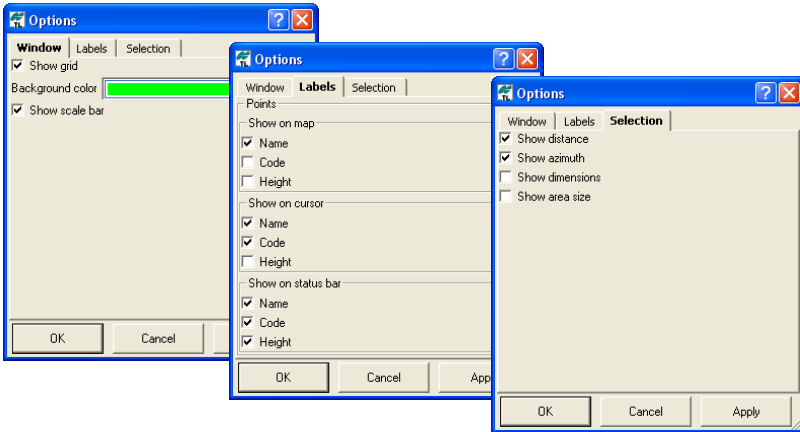

Figure 3-20. CAD View Options
2. On the *Windows* tab, check mark the desired settings (Figure 3-20 on page 3-28). Click **Apply** to apply the changes, then click **OK** to save the settings and make further changes.
3. On the *Labels* tab, enable the desired settings (Figure 3-20 on page 3-28). Click **Apply** to apply the changes, then click **OK** to save the settings and make further changes.
4. On the *Selection* tab enable the desired settings (Figure 3-20). Click **Apply** to apply the changes, then click **OK** to save the settings and make further changes.